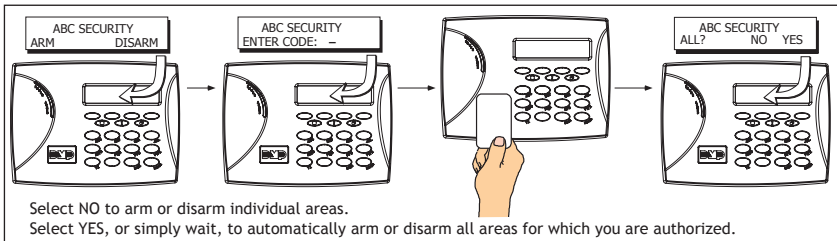

Figure 9: Area Arming and Disarming
**Note:** Figures 9 through 12 show the user presenting their card to the keypad. When an external reader is connected to a 7073/793A or 793 keypad, the user presents their card to the reader rather than to the keypad.